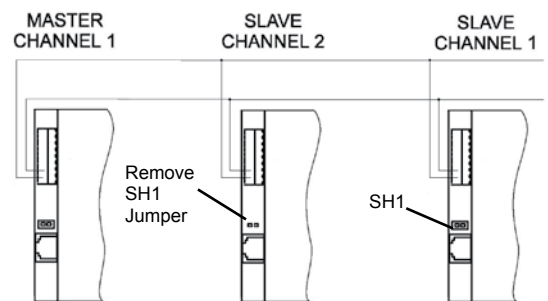

Figure 2-10
4. Use synchronization wire (18 to 24-gauge, 2 conductor) between units; connect to pins 1 and 2 as shown in Figure 2-10 and on inside of controller cover. Connector block is a plug in and may be removed to facilitate connection of the wires.
5. With the exception of the end units, the SH1 jumper, located on the controller board assembly must be removed. (See Figure 2-10.)